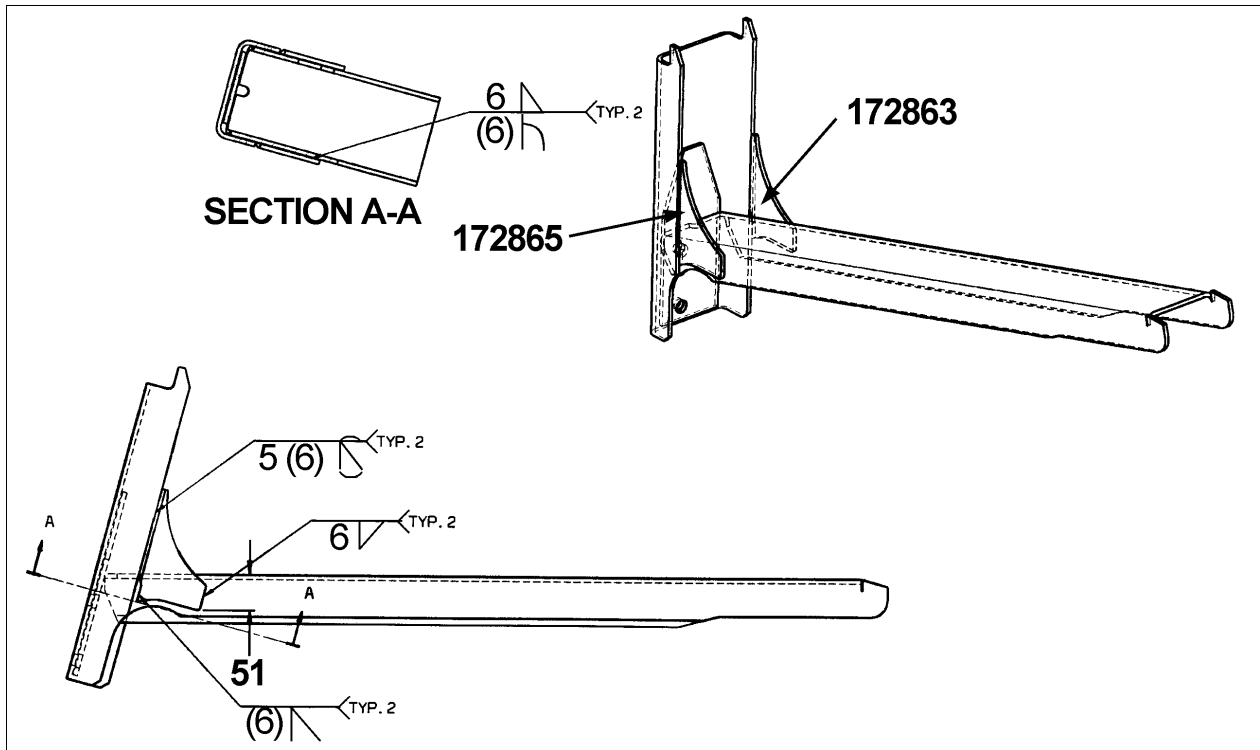

FIGURE 3: WELDING SPECIFICATIONS
3. Check if Panhard rod support is cracked, check if cracks are superficial by grinding the affected area to make the cracks disappear. If cracks are only superficial, chip off or grind to bare metal then weld crack referring to paragraph: **Steel – Steel Welding**. Weld reinforcement parts referring to figure 3 welding specifications
4. If no cracks are present on Panhard rod support, weld reinforcement parts referring to figure 3 welding specifications.
5. Weld reinforcement parts as per figure 3 and refer to paragraph: **Steel – Steel Welding** for welding specifications: